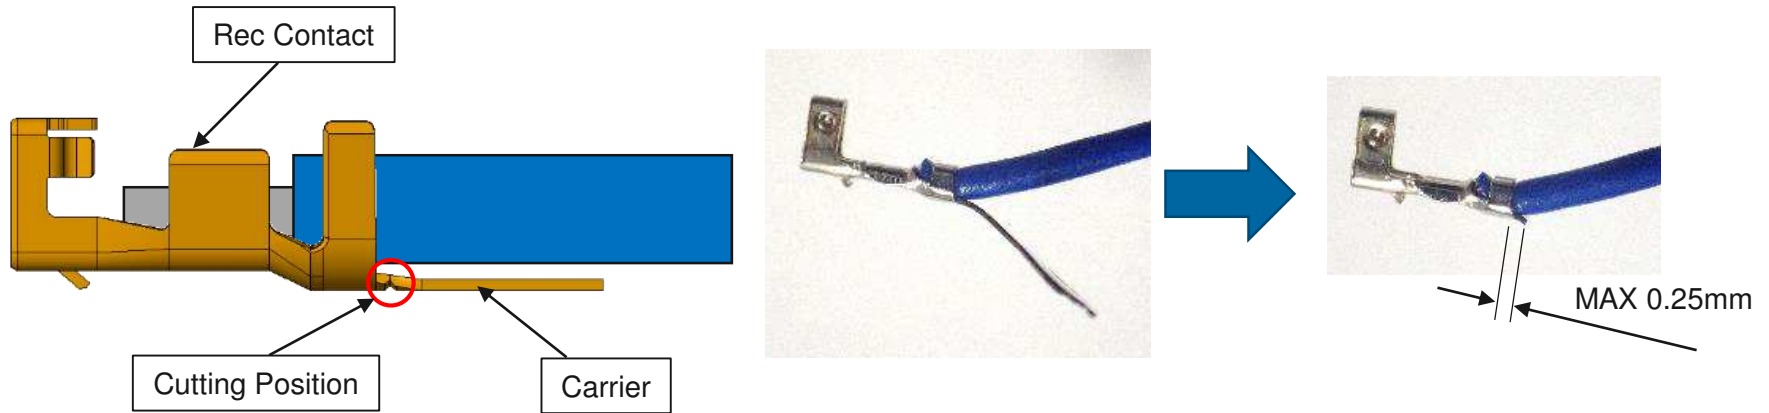

Fig.8
3.4 Cut the carrier part of Rec Contact using a nipper etc. (Fig.8)